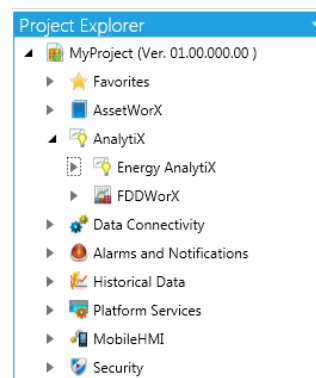

Figure 1 - Energy AnalytiX Provider in Workbench
**NOTE:** Both Energy AnalytiX and AssetWorX appear as providers in the Project Explorer area of Workbench, as shown in Figure 1.